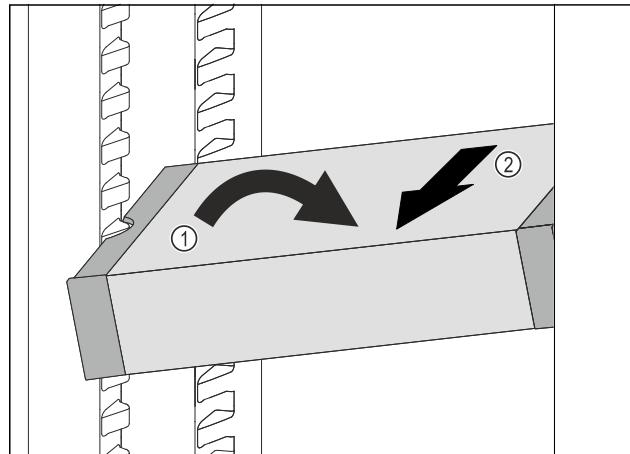

Fig. 108
- ▶ Set VarioSafe in refrigerator compartment at an angle. Fig. 108 (1)
- ▶ Take VarioSafe out to the front. Fig. 108 (2)